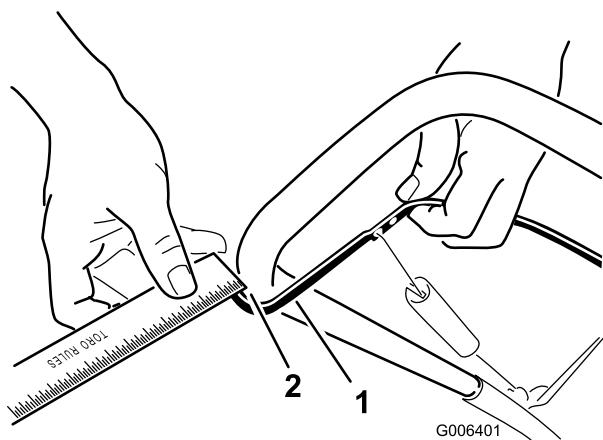

Figure 20
Move the control bar back toward the handle to remove the slack in the control cable (Figure 20).
Note: Ensure that a 1/16-inch to 1/8-inch (2 mm to 3 mm) gap exists between the control bar and the handle (Figure 20).
- Move the Z-fitting to a higher or lower hole on the adjuster link as needed to obtain the 1/16-inch to 1/8-inch (2 mm to 3 mm) gap between the control bar and the handle (Figure 20).